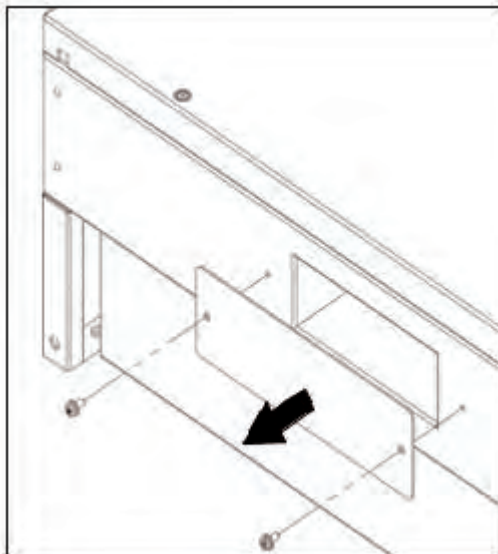

Figure 3-9 Cover plate of the main housing
(4) Install the wiring box
① Remove the cover plate at the bottom of the main housing. (see Figure 3-9)